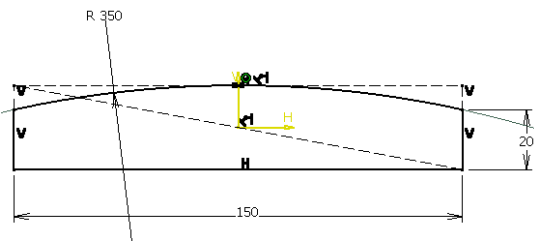

Figure 5-89 Sketch of the base feature
- Create the base feature of the model by extruding the sketch drawn on ZX plane equally to both the sides of the sketch plane, refer to Figures 5-89 and 5-90.
2. Draw the sketch, as shown in Figure 5-89, and exit the **Sketcher** workbench.